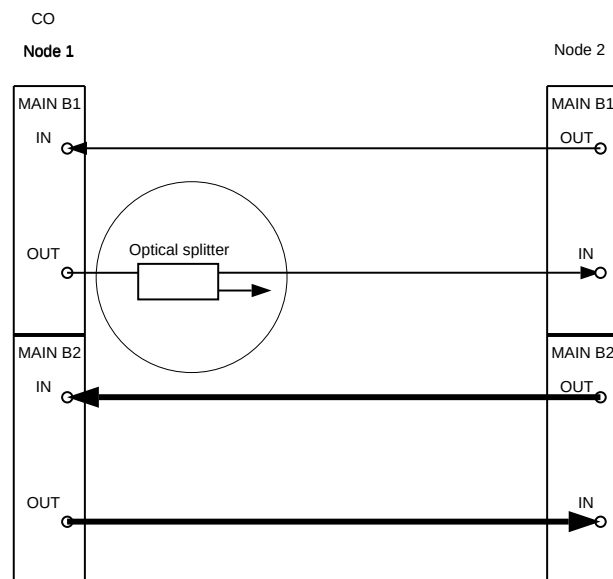

Figure 2. DDM-2000 OC-12 Point-to-Point Network to Ring Upgrade
8. At Node 1, install optical splitter in **MAIN-B-1 OUT** optical line as shown in Figure 2.